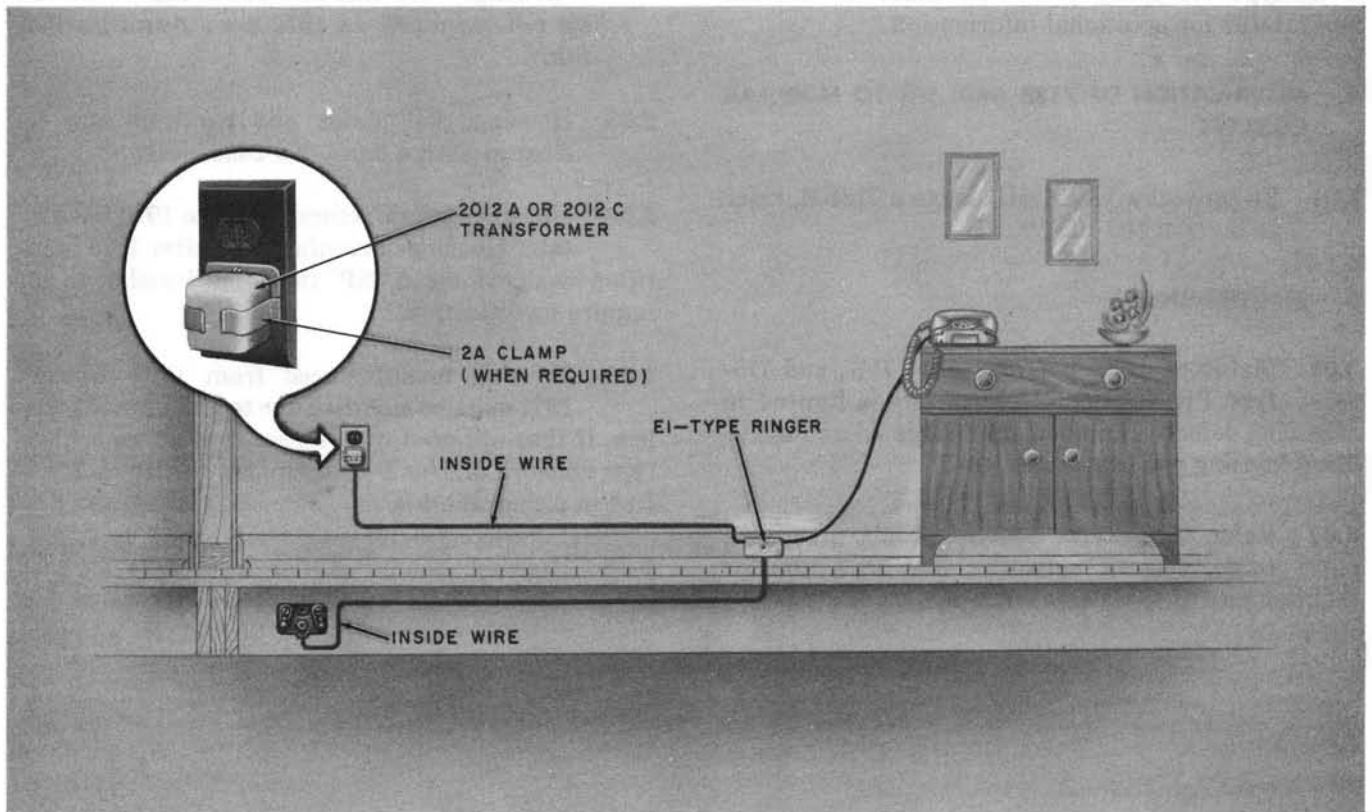

Fig. 6—Typical Hard-Wired Installation of 701D (MD), 711B (MD), or 713B (MD) Telephone Set With External Ringer
2.04 The 701D (MD), 711B (MD), 713B (MD), and 713BM telephone sets are not equipped with internal ringer. When a ringer is required, an E1-type external ringer (Fig. 6) may be used.
3.01 Install sets using standard installation procedures. ♦Some of the standard wiring arrangements used when installing these sets are shown in Fig. 6, 7, 12, 13, 14, 18, 19, and 20.♦